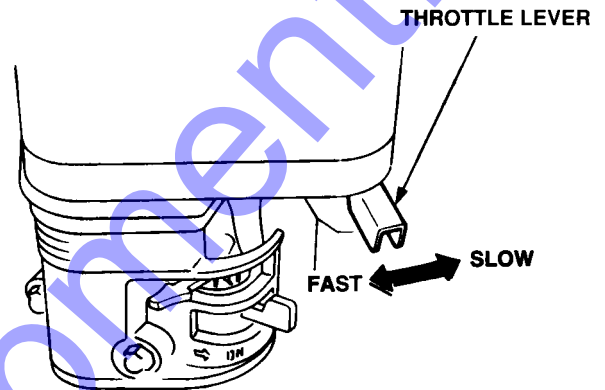

Figure 14. Throttle Lever
4. Place the throttle lever (Figure 14) halfway between **FAST** and **SLOW**.
- Place the throttle lever (Figure 14) in slow position, and listen for the engine speed to decrease.